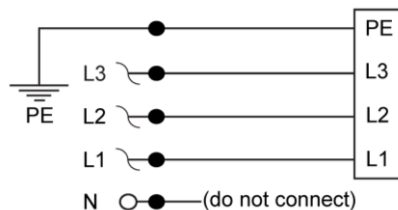

Figure 7.2: The 3 phase connections for AC Mains.
- The unit can operate only on a 3-phase grid Figure 7.2 and see the chapter 'Specifications' in the data sheet for the minimum and maximum values.